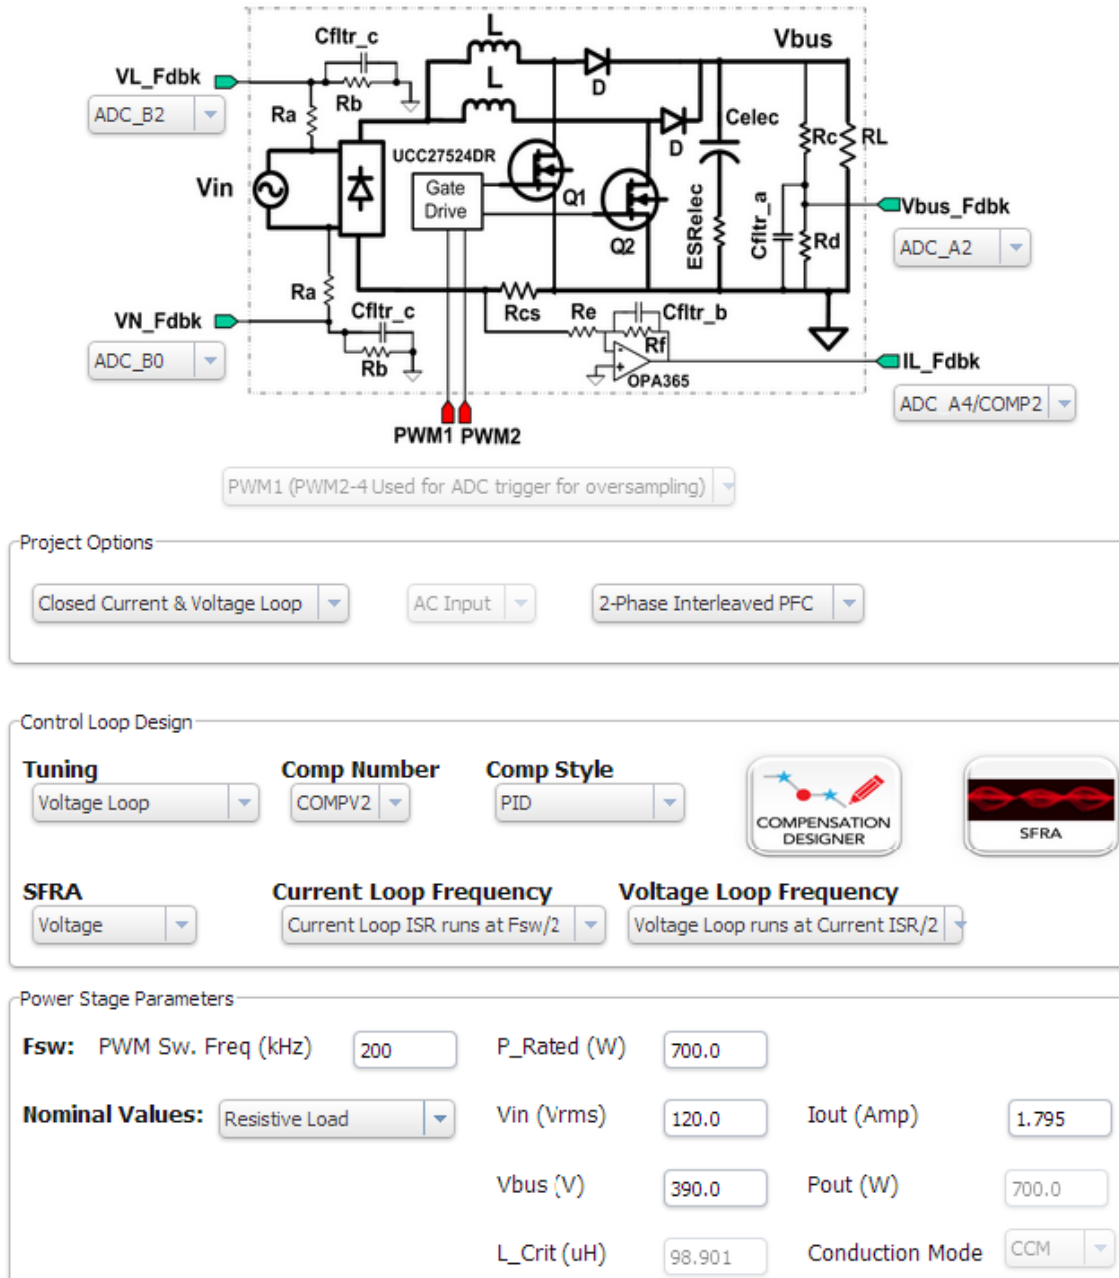

Figure 18. PowerSUITE GUI
8. Save the main.cfg file (Figure 18 shows the powerSUITE GUI.)